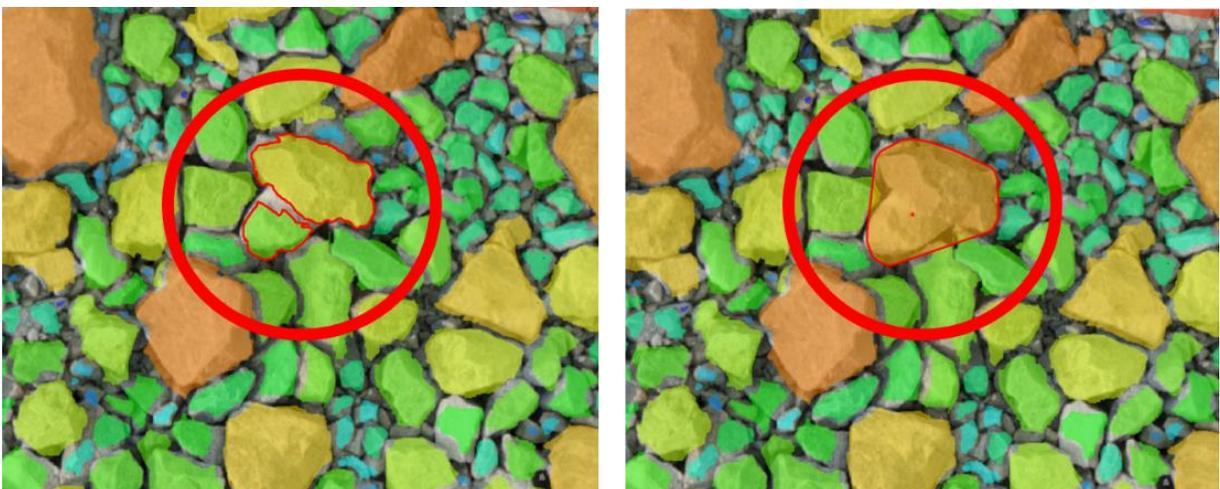

Figure 18: Merging of two individual fragments
1. “Merge Fragments” merges two fragments into one. Activate the corresponding icon  in the toolbar and click on the two fragments to merge (Figure 18).
2. “Merge Fragments Automatically” merges several fragments into one. Activate the corresponding icon  in the toolbar and select the fragments to merge by a polygon using the computer mouse (Figure 18). Confirm the selection by clicking the middle mouse button or the “Enter” key.